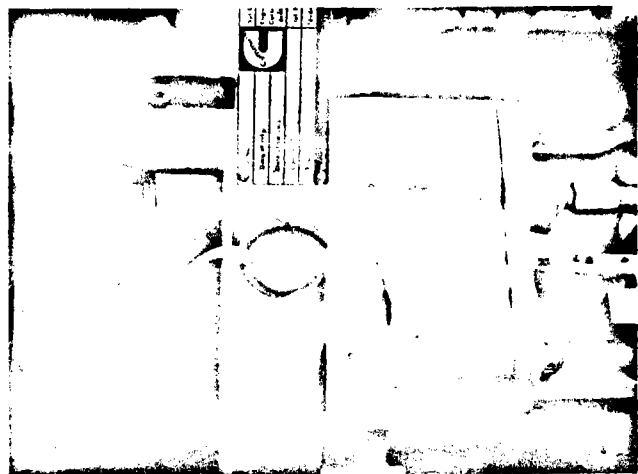

Fig. 1-1. (N11985). Lubricating system priming point — NH/NT-855 Engine
2. Remove the plug from the lubricating oil crossover passage on NH/NT-855 Engines, Fig. 1-1. Remove the plug from the head of the lubricating oil filter housing on V Engines, Fig's. 1-2, 1-3, 1-4, 1-5 and 1-6. On KT/KTA-1150 Engines, remove the plug from the front of the oil cooler housing, Fig. 1-7.